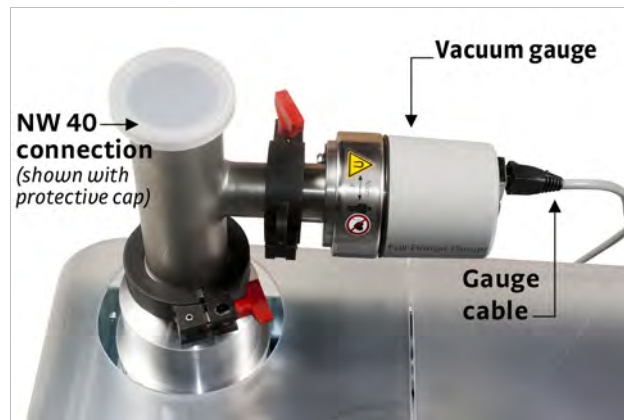

FIGURE 3-27 Vacuum gauge attachment
1. If the vacuum gauge is not already installed on the turbo vacuum pump as shown in FIGURE 3-27, remove the protective caps. Then use the provided NW 40 tee clamps and center rings to attach the gauge as shown in FIGURE 3-27 .
2. Attach the supplied gauge cable to the connector (FIGURE 3-27). If not already done, attach the other end of the cable to the connector on the back of the turbo pumping system.